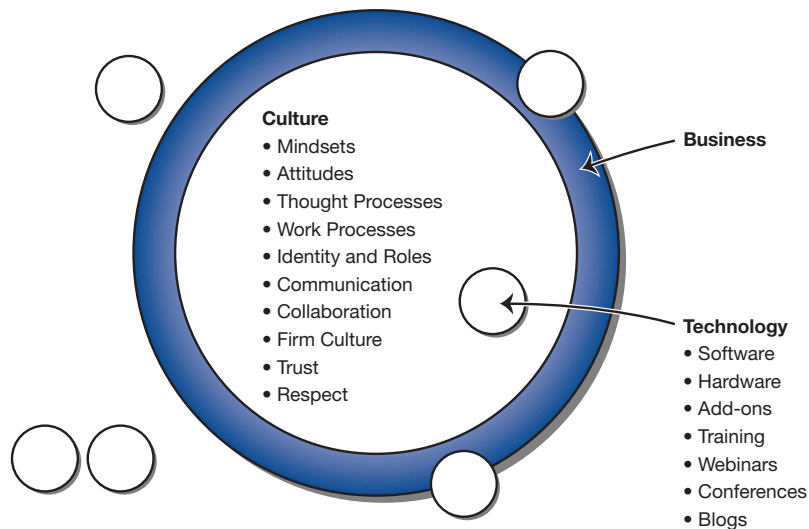

Figure 3.14 Business and technology as catalysts for change within the organization.
**JH:** My experience is that the ones that are introverted aren’t on their own. They’re working for someone else. The extroverts are the rainmakers. The rainmakers are the ones who have the big firms, the most successful firms. The other guys are waiting for someone to walk through the door. The architects I’ve worked with are extroverts. (See Figure 3.14.)